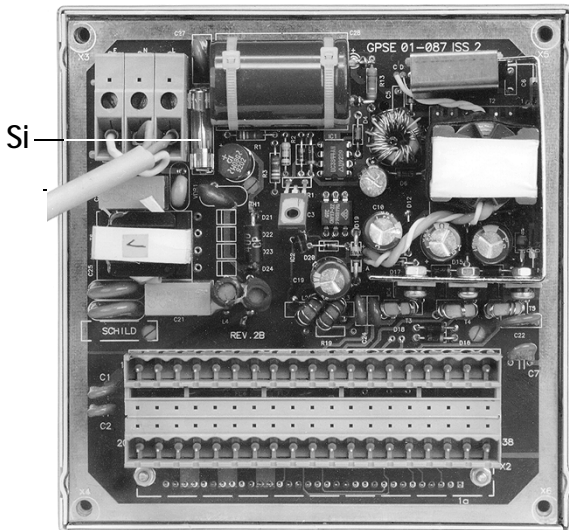

Figure 20 Replacing fuse *Si*
3. Replace the fuse *Si* (see Figure 20).